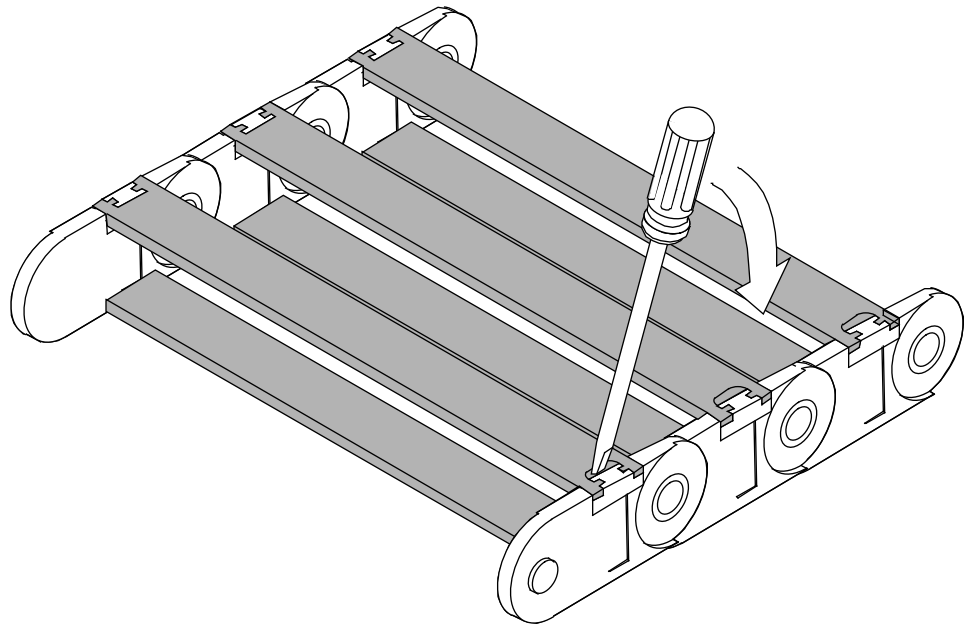

Figure 5. Flexible Cable Way Crossbars
8. Pry open each crossbar of the cable way, using a standard 1/8-in. flat-bladed screwdriver and leave the inner side attached. Refer to Figure 5.